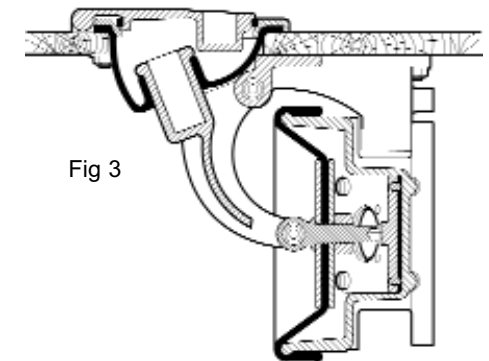

Fig 3
- Using template mark off the 6 holes for the mounting and cut out the hole for the pump handle. Round off top edge of large hole as shown in fig. 3.